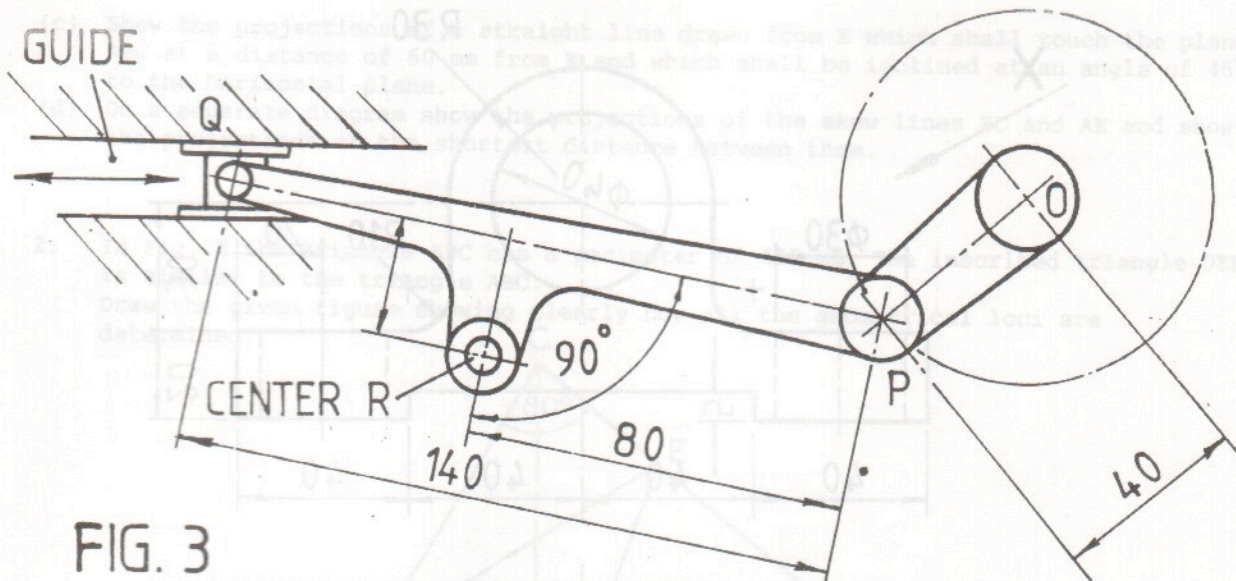

FIG. 3
- (b) Fig. 3 shows a machine link mechanism. Crank OP rotates about O while slider Q slides in horizontal guides. R is an extension link from PQ.